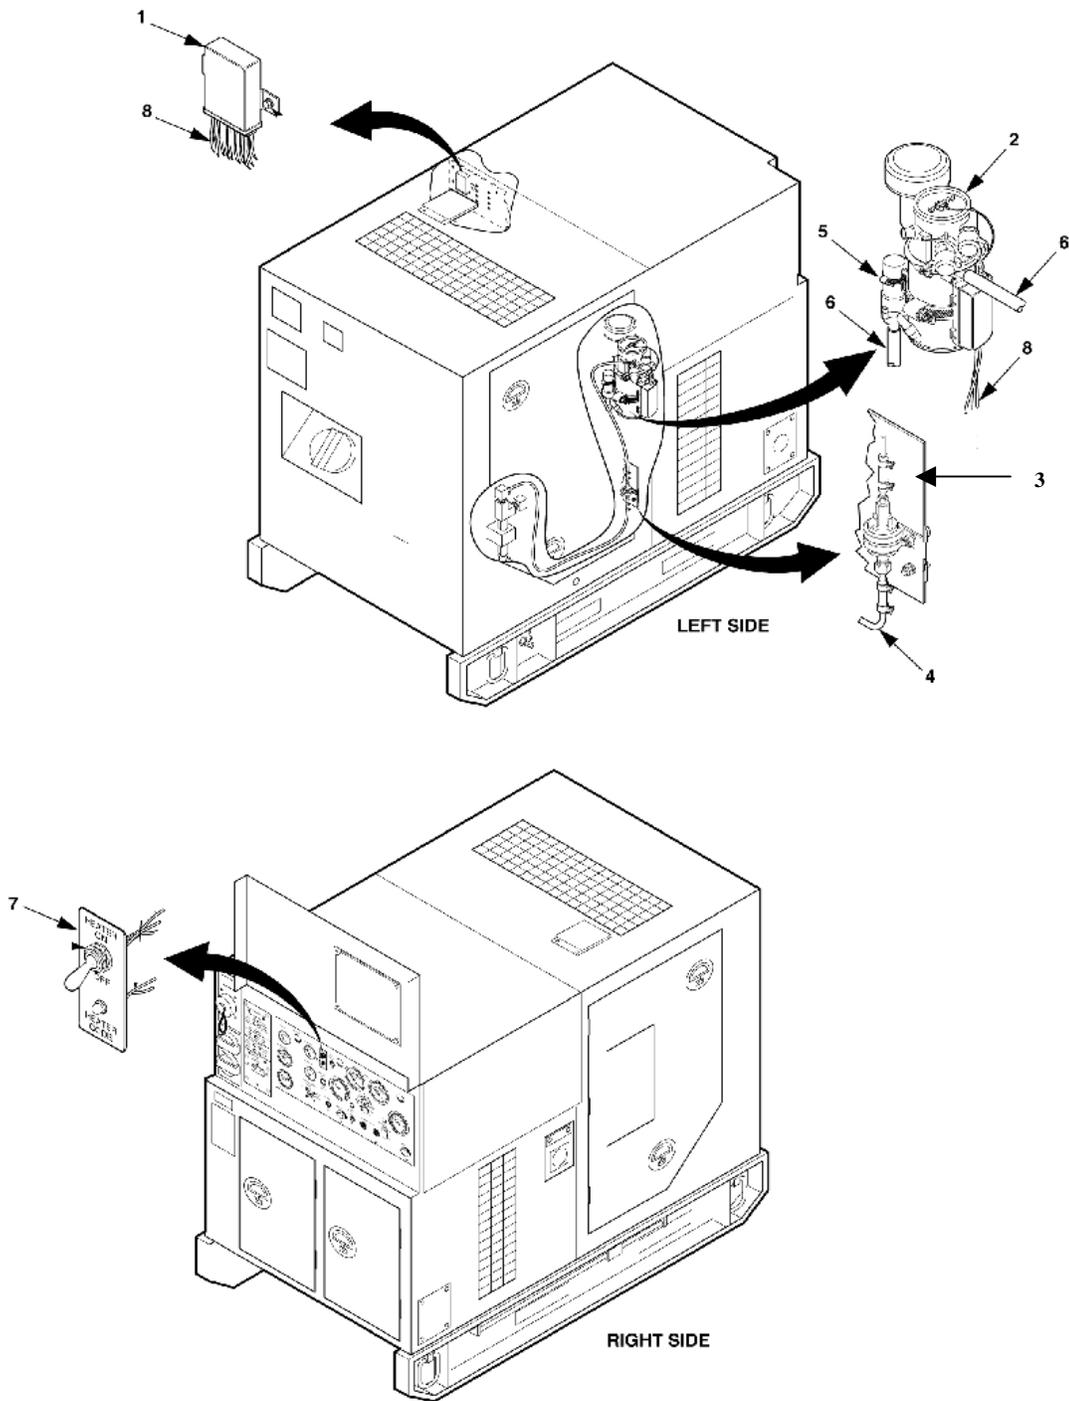

Figure 1-1. Location of Major Components for 10kW (MEP-803A, MEP-813A).
Figure 1-1 illustrates the major components of the kit and shows their locations on the 10kW Tactical Quiet Generator Set. (Refer to table 1-1 for item names).
2-1.1.1 Heater Indicator Light. A light at the heater ON-OFF switch (item 7, figure 1-1) lights when the heater is in operation. The light also serves as a troubleshooting code light (See paragraph 3-1.1).